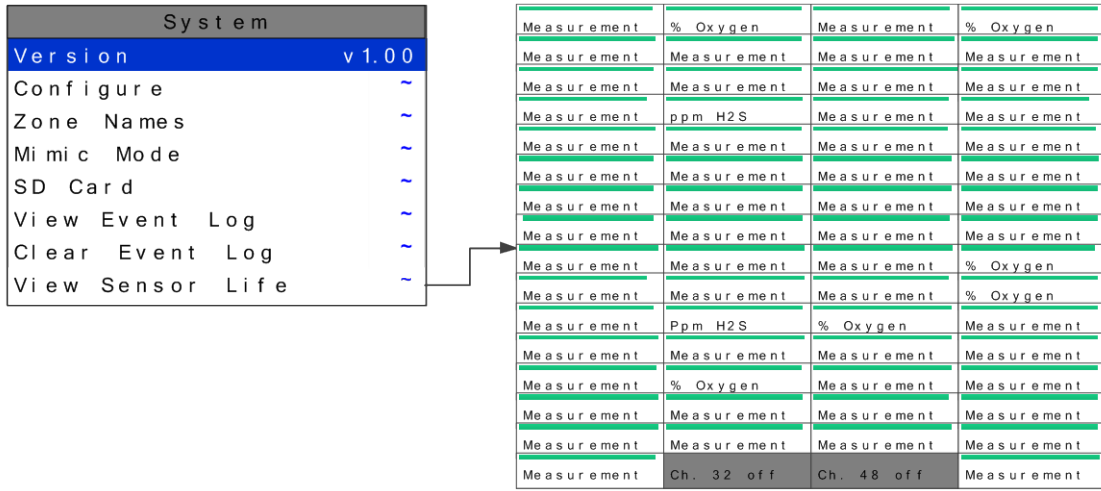

Figure 2-36
**Sensor Life** is available when at least one channel has **Sensor Life** activated in the **Marker menu** (see section 2.4.4.5). The **Sensor Info** screen displays each channel's sensor status as illustrated in Figure 2-36. Channels with **Sensor Life** disabled are indicated by **Ch. # Disabled** below the bar. **Cal Required** indicates no Calibration Marker value has been received by the HA 72.